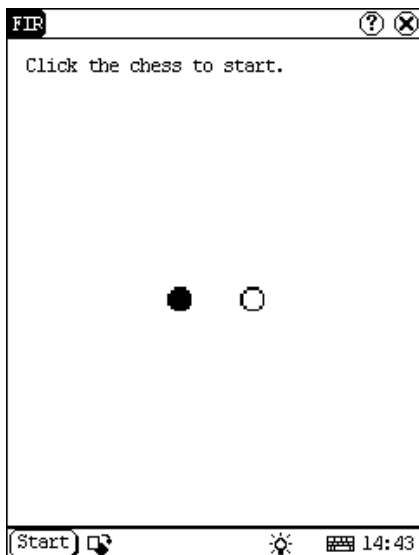

Figure 5-12
- 2) Click black or white chessman to begin the game. The one who select the black chessman will start first. (See Figure 5-12)